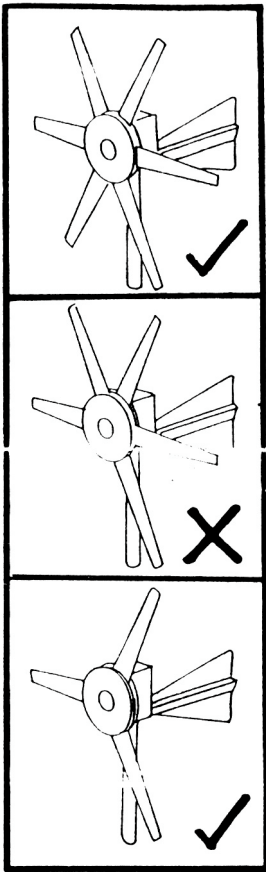

Figure 8
5. Check blades for damage. If any damage is found replace the blade available from your dealer or the manufacturers. The machine will run balanced with 3 blades until the replacement is fitted. (Fig.8).